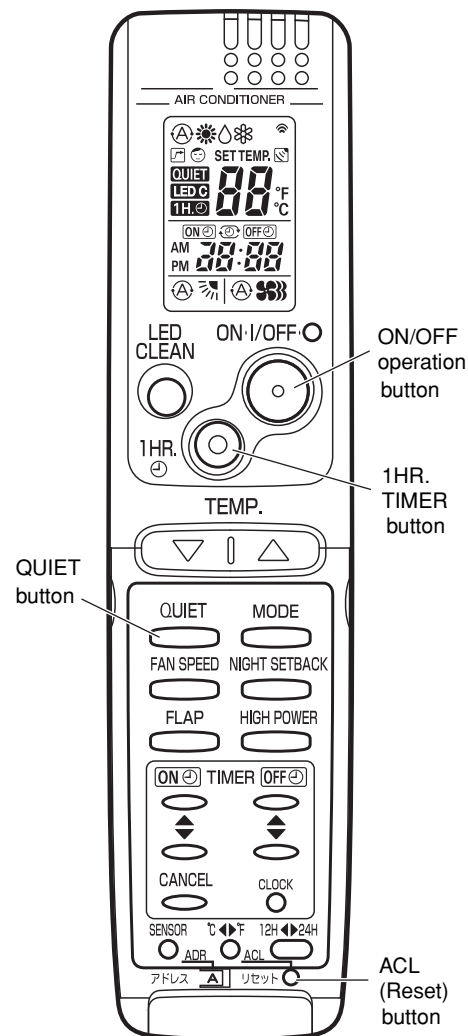

Fig. 59a-1
- (3) Press the ON/OFF operation button of the remote controller again to stop the test run. (Fig. 59a-1)
- (4) Finally press the ACL (Reset) button of the remote controller to release it from Test Run mode to return to normal mode. (Fig. 59a-1)